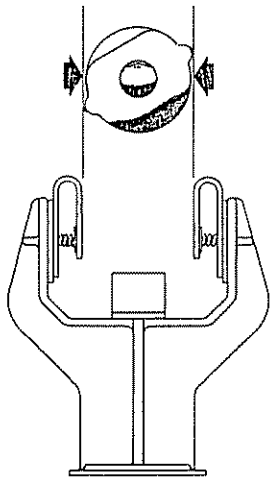
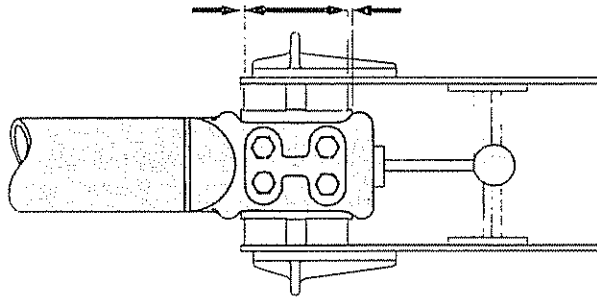

Figure 6
Figure 7 Blade tip centered in jaw contacts
9. Hand operate each pole to check for proper contact engagement. The blade should enter the jaw centrally as shown in figure 6 without dragging on either side. Additionally, it must come to rest with the silver of the blade centered in the silver of the contact leaves as shown in figure 7. Adjust the jack bolts at the base of the jaw insulator to achieve proper contact alignment.